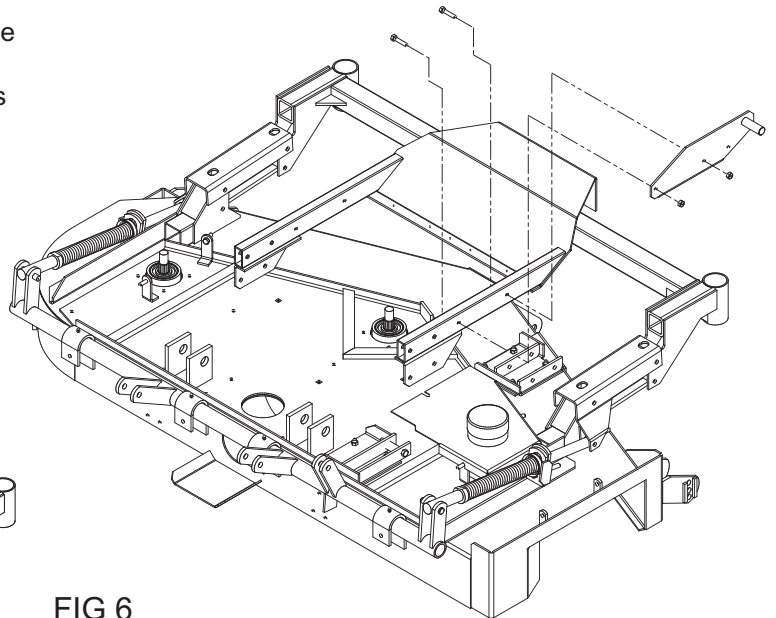

FIG 6
- D. Fasten the pedal mount weldment (592074) to the frame rail as shown in Fig. 6.